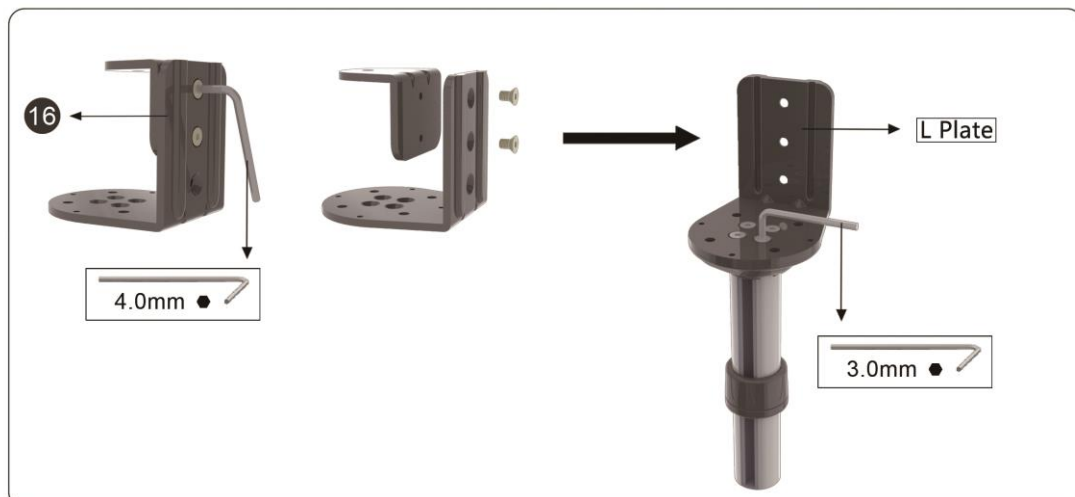

Figure 1-2
2. Unscrew and remove the smaller L plate using the provided 4mm Allen wrench. Attach the mounting pole to the larger L plate and tighten the four screws using the provided 3mm Allen wrench (**See Figure 1-2**).